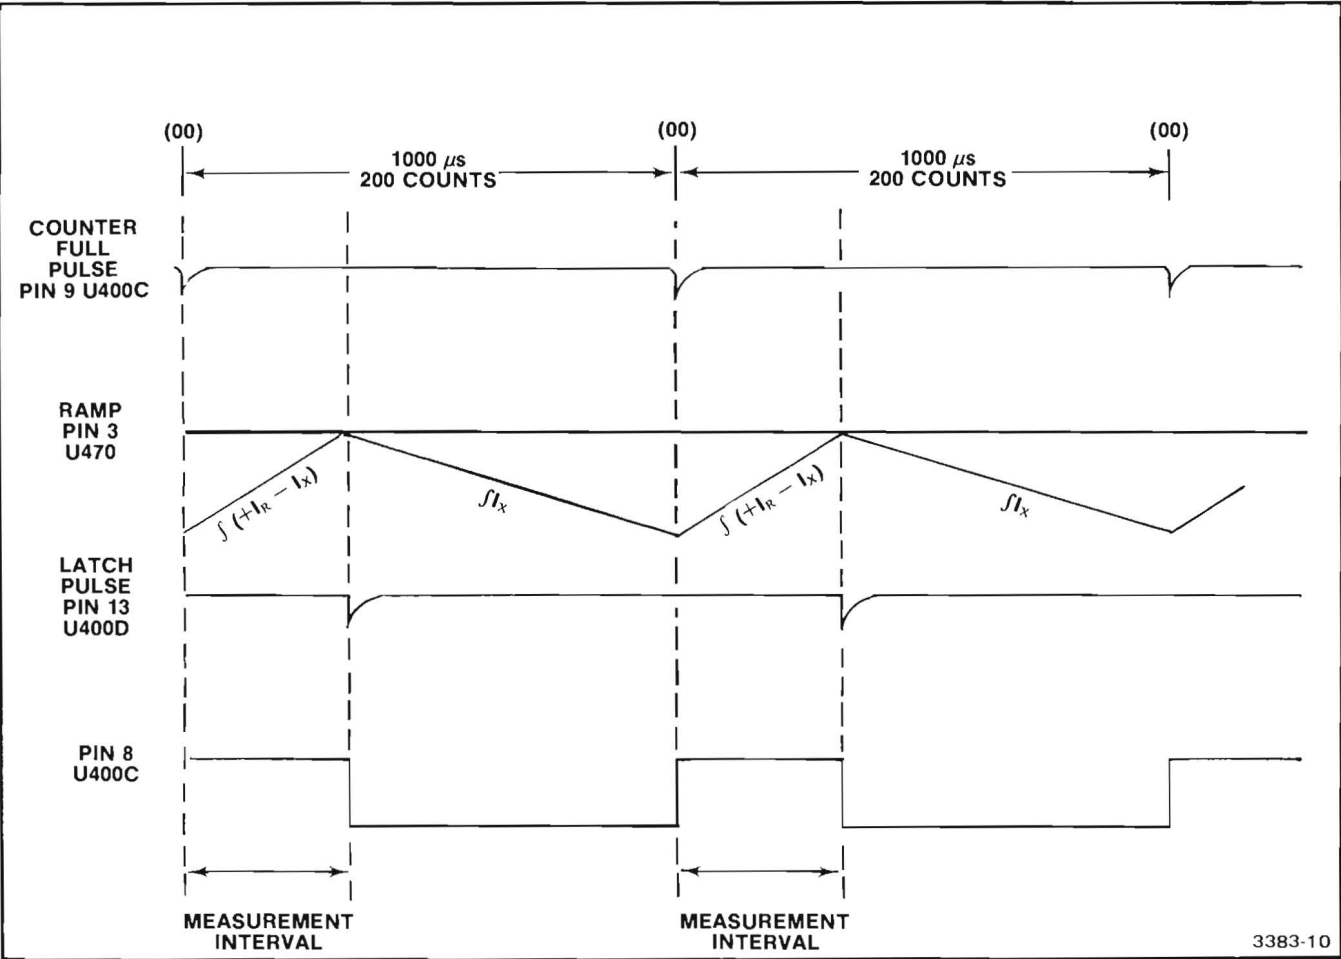

Fig. 3-1. DVM timing diagram for a negative input to the integrator U460.
The system contains two reference current sources; a +I_r source from the collector of Q415 and a -I_r source from the collector of Q400. Only one of these current sources is switched on at a given time, dependent on the polarity of the voltage change on the 100 V bus. For a ramp that is negative, pin 5 of U400B is set high and pin 1 of U400A is set to a low. Pins 2 and 4 of these NAND gates connect to a common control line and, while the counter is counting up to a count of 200 (00), pin 8 of U400C is at a low level. During the first ramp period, the output levels of U400A and U400B are high and both reference current sources are cut off. See Fig. 3-1.